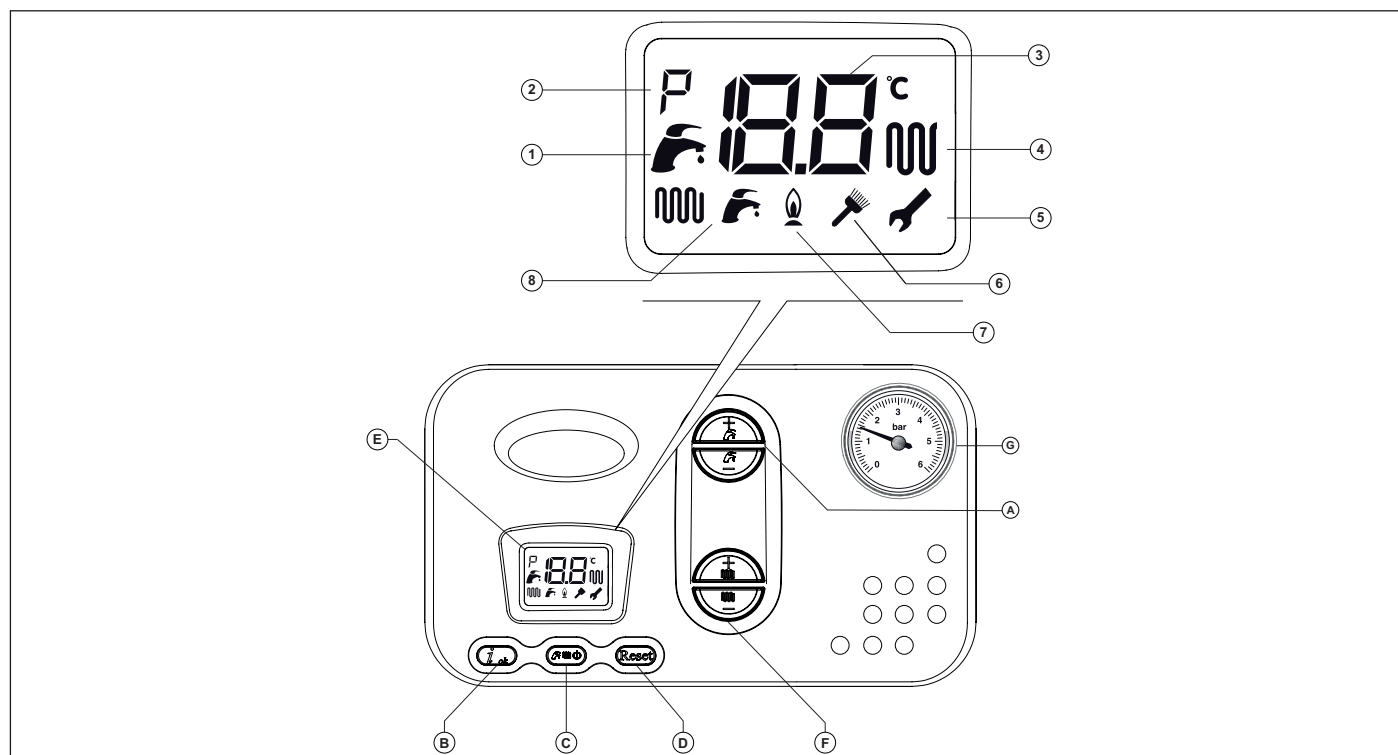

Fig. 1 Control panel
- Select the boiler operating mode: OFF/SUMMER/WINTER/CH ONLY (see button (C) in Fig. 1 Control panel on page 8).